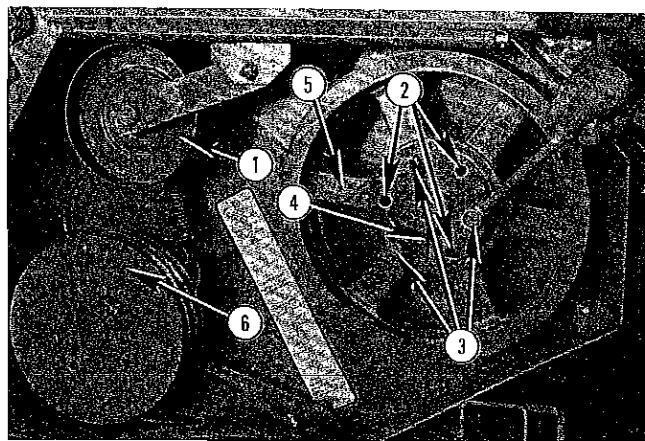

FIGURE 76
1. Loosen and remove belts and driveN sheave. See Fig. 76, page 38.
2. Remove 4 3/8" bolts (2) and the 2 inside anti-wrap shields. This allows wrench access to the bearing mounting bolt heads.
3. Loosen outer end zerk hex nut of lube tube (3) and detach tube from bearing (4). Circumferentially polish shaft (5).
4. Remove 4 1/2" locknuts (6) which are factory retained with anaerobic threadlock (eg. Loctite 242 (blue) or Perma-Lok HM 118 (red)). Modestly pry plate (7) outward to start bearing off shaft.
5. A varying quantity of 2" nom. I.D. washers are factory installed between the inner end of bearing (4) and the shoulder on shaft (5). Because replacement bearings vary in axial dimensions, care must be exercised to FULLY WASHER THE SPACE BETWEEN THE BEARING AND SHAFT SHOULDER. Reinstall plate (7) and bearing (4) by temporarily snugging up 2 each of their bolts (without anti-wrap shields). Visually check above cited washers to insure no looseness, or substantial axial preload, exists. Two inch nom. I.D. washers are available as part numbers:
2. Raise front of unit 12" or more off ground with trail hitch jack, or tractor 3 point hitch. Block both front corners accordingly and move hitch jack to shipping pedestal (1). Remove SMV, P.T.O., and either 3 point, or trailing, hitch. See ASSEMBLY, page 51 or 52 and perform in reverse order as stated therein.
3. Remove belts and drive sheave. See Figure 76, page 38. If unit is equipped with after-market hydraulics, remove hose support and fully retract cylinder(s). Loosen both inner and outer bearing's lube tube zerk nuts and detach lube tubes from their supports.
4. Temporarily insure end panel shields are latched shut. Reinstall hitch draft pins (2) and their cotters.
1. It is generally best to align driveR (1) to drive-N sheave (2); thus, only 1 sheave need be loosened.
2. Determine misalignment by placing a steel straight edge (3) across sheaves as shown.
3. Fully relieve belts tension by removing all tension on backwrap idler spring (4). The spring anchor (5) can be released by gripping it with locking pliers, pulling outward and simultaneously twisting downward.
4. Refer to Figure 76 at right for sheave loosening procedure and adjust driver sheave's inner bushing in or out as required for realignment. Then reinstall sheave per Figure 77, page 39.
Servicing these bearings requires removing the driveR sheave, See Figure 76, page 38 and extract the drive shaft. Paint must be polished off drive shaft to permit stripping it thru the bearings.